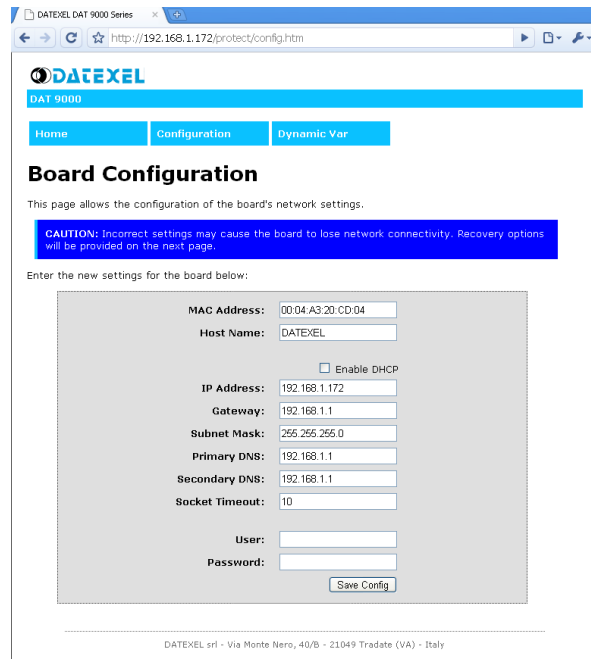

Fig. 6.12
- **Configuration** (Fig.6.12) (<http://192.168.1.172/protect/config.htm>): allows to modify the TCP settings (IP address , Subnet mask, Gateway, etc...). Clicking on the "Save Config" button, the parameters set will be saved in Eprom and the Controller will be reset. It is possible to protected this page by Password, modifying the fields "User" and "Password" and click on the "Save Config" button. **WARNING!**in case of lost Password, the user won't be able to get back the information.